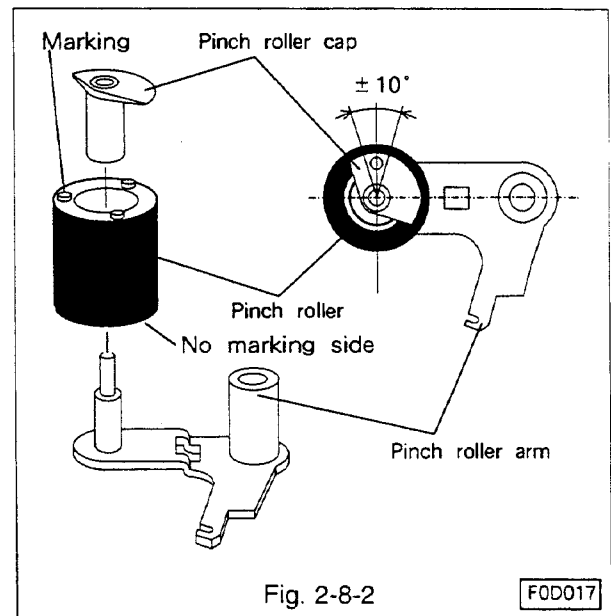

Fig. 2-8-2
- D. Remove the pinch roller cap from the pinch roller arm, and remove the pinch roller. (Refer to Fig. 2-8-2.)
- A. Assemble the pinch roller cap and the pinch roller to the pinch roller arm by exercising care with the installation angle of the pinch roller cap and the marking of the Pinch Roller. (Refer to Fig. 2-8-2.)